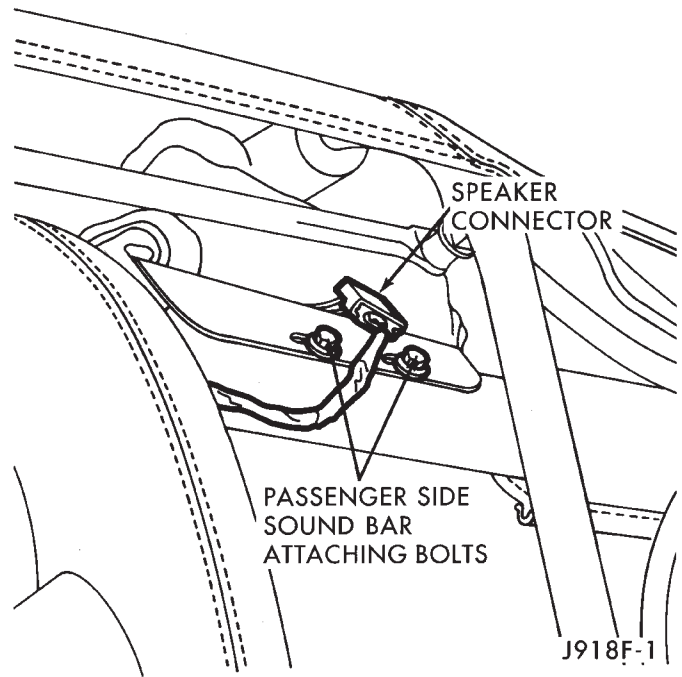

Fig. 3 Sound Bar Speaker Connector
(1) Pull sound bar padding away from bar on the passenger side (Fig. 3).
(2) Disconnect speaker harness connector located on the passenger side at the sound bar.
(3) Remove screws holding speaker grille and speaker to bar.
(4) Disconnect wires from speaker and remove speaker.
(5) To install speaker, reverse the removal procedures.
(1) Disconnect speaker harness connector located on the passenger side at the sound bar (Fig. 3)
(2) Remove bolts attaching the sound bar side flanges to the right and left side bars.
(3) Open zipper on sport bar cover.